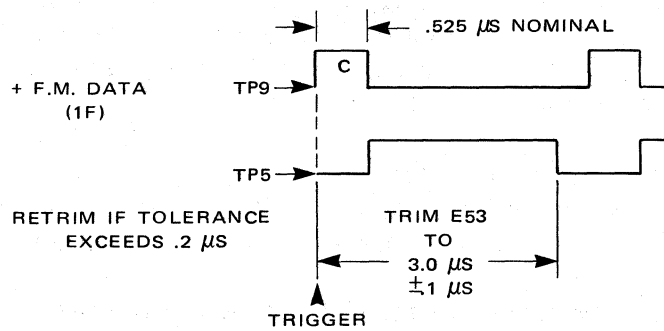

Figure 5-13 WINDOW ONE-SHOT TIMING
3. TP 5 – Window one-shot output in Data/Clock separator circuit. The window one-shot triggers and retriggers on FM Data pulses. The one-shot time period, in conjunction with +FM data pulses at TP9, should be examined and the trim resistor (E53) should be selected so that the time period from the leading edge of FM Data pulse to the trailing edge of window one-shot is a period of $3.0 \pm 0.1\mu\text{s}$. (See Figure 5-13)